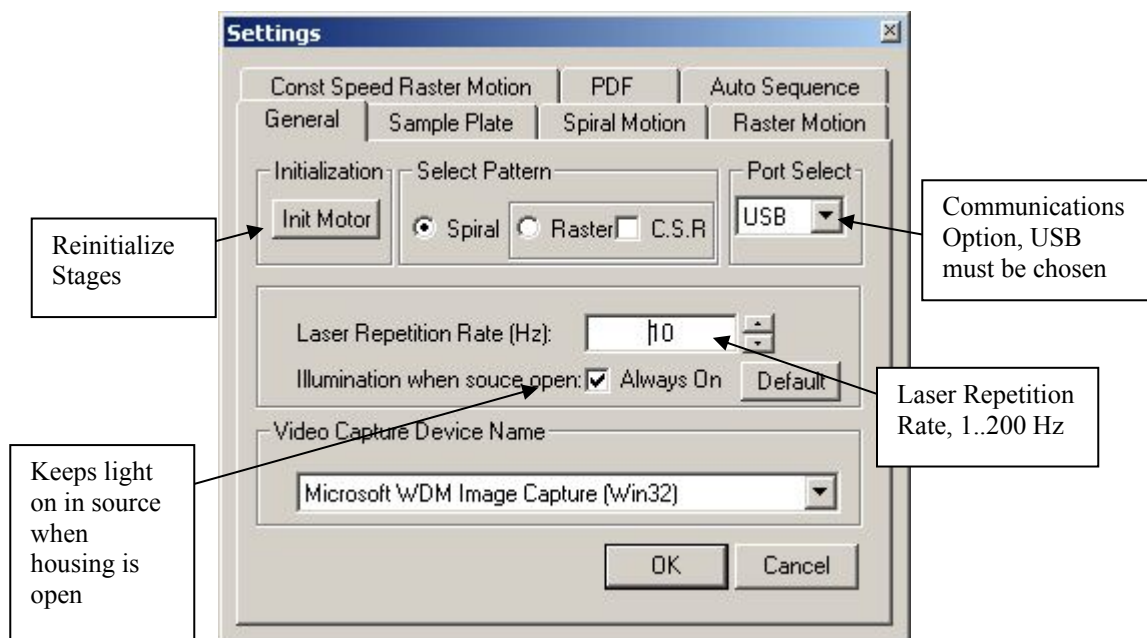
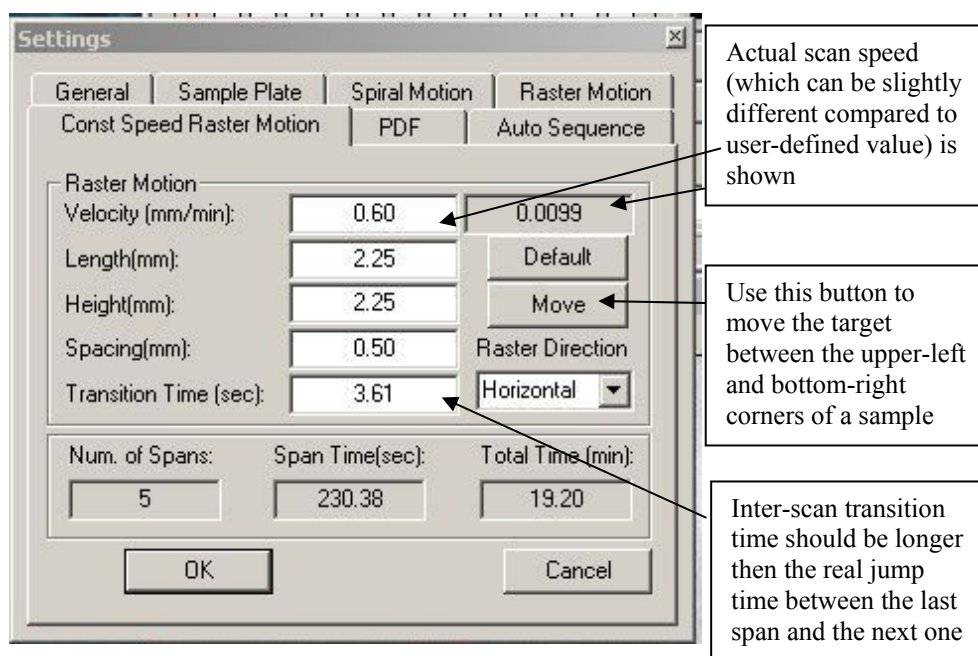

Fig. 7-13 General settings in the Target software.
Fig. 7-14. Constant Speed Raster Motion control page.
To change various program parameters like, spiral/raster motion properties, laser frequency and attenuation, AutoSequence Mode timing and so on, click the "Settings" button and edit the parameter(s) as it is shown in Figs. 7-13 to 7-18, below.
There are three different sample plate patterns that can be selected during MS data acquisition to desorb fresh regions of sample surface by laser radiation: Spiral motion (selected in Fig. 7-13) and two different Raster patterns – Raster Motion and Constant Speed Raster Motion (C.S.R. control in Fig. 7-13 checked/unchecked). The parameters of the Patterned Motion can be adjusted using the three separate pages of the Setting dialog: Spiral Motion; Raster Motion and Constant Speed Raster Motion, correspondingly. Spiral or Raster motion can be used if the acquisition of long enough MS signal is desirable (for signal accumulation, relatively weak MS/MS data recording etc.). Raster/C.S.R (Constant Speed Raster) motion is designed for special applications like recording of AP MALDI images. For MALDI imaging, smooth target plate motion with constant speed is important. Another important feature of Constant Speed Raster Motion is the possibility of precise calculation of xy-coordinates of exposed position (WHERE the spectrum was recorded) based on the time elapsed from the Motion start (“retention time”, WHEN a spectrum was recorded). This feature enables the conversion of recorded mass-chromatogram into a two-dimensional plot of a particular peak intensity distribution (MS image). In Fig. 7-14, Constant Speed Raster Motion page of Settings dialog that controls the mode is shown.
- Laser pulse energy and frequency may be easily tuned through Target software (see Fig. 7-13 and 7-17). Typically you should tune the attenuation for the maximum signal only once, for every matrix type (α -CHC, DHB and so on).